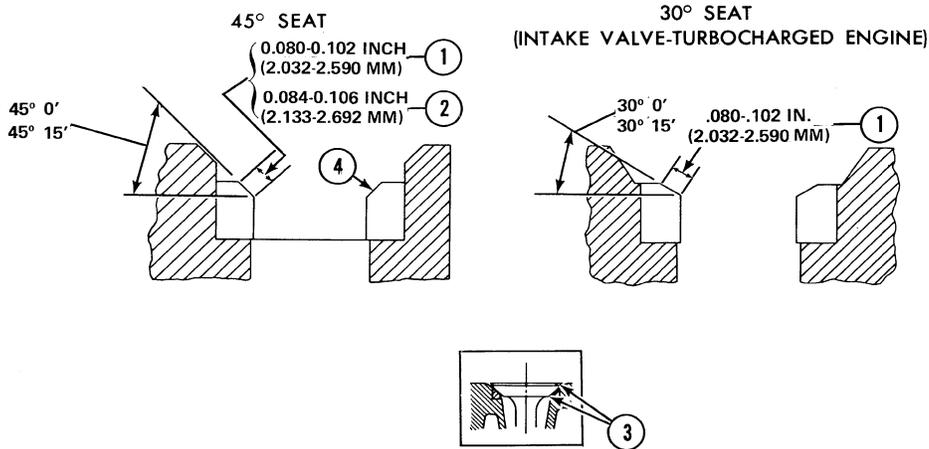

Figure 9
5. The valve seat insert should be ground to give 1° interference fit with the valve. Valve seat insert angles are 45°00'–45°15' for all valve seats with the exception of the intake valve on turbocharged engines, where it is 30°00'–30°15'. See Figure 9.